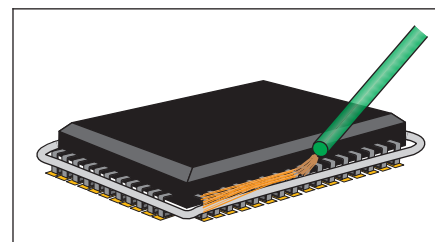

Figure 2 Apply Flux
6. Apply flux to all the leads. (See Figure 2.)